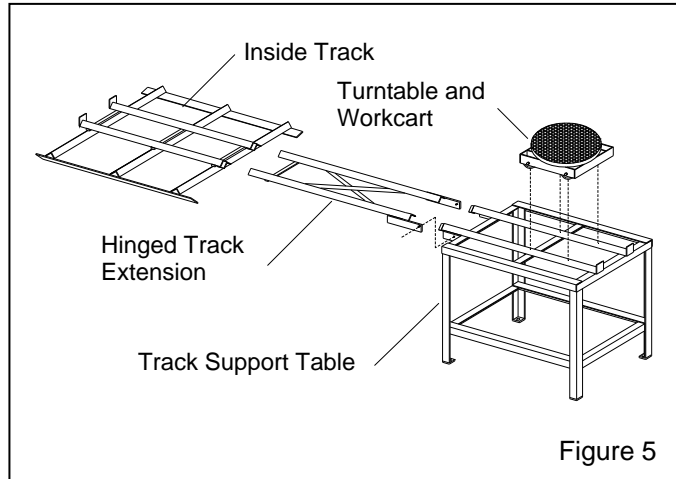

Figure 5
3.3.1 The components of the turntable and track assembly are shown in Figure 5. The assembly consists of: